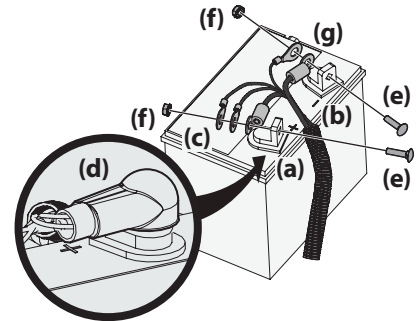

Figure 20
NOTE: The positive battery terminal is marked POS. (+) (a). The negative battery terminal is marked NEG. (-) (b). See Figure 20.
NOTE: If the positive battery cable (c) is already attached, skip ahead to Step 6. See Figure 20.
4. Attach the positive cable grouping (c) and positive cable for the 12V outlet (if equipped) to the positive battery terminal (a) with the bolt (e) and nut (f). See Figure 20.
5. Position the red boot (d) over the positive battery terminal (a) to insulate it and help protect it from corrosion. See Figure 20.
6. Attach the negative cable grouping (g) and negative cable for the 12V outlet (if equipped) to the negative battery terminal (b) with the bolt (e) and nut (f). See Figure 20.